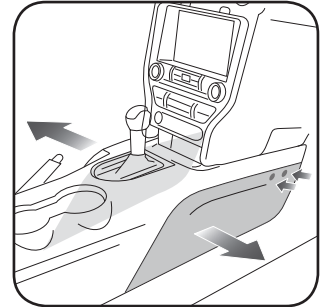

Fig. 1.3
5. Unclip and remove the front side panels from the center console and remove four (4) 7mm screws under the panels. (Fig. 1.3)